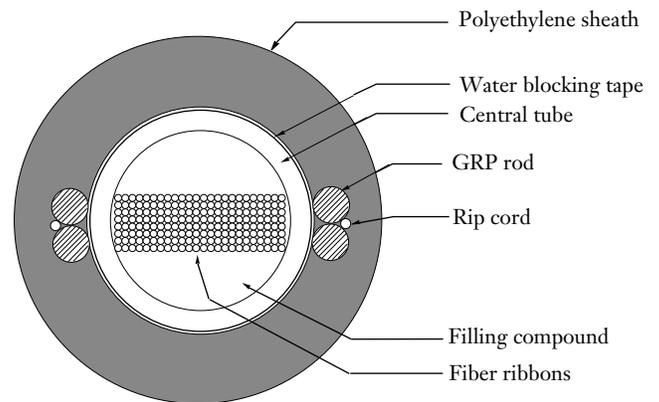

Figure 1
**1.2** The cable illustrated in this procedure is a non-armored cable manufactured with a single central tube. Four glass-reinforced plastic (GRP) rods located beneath the sheath provide tensile strength for the cable (Figure 1).